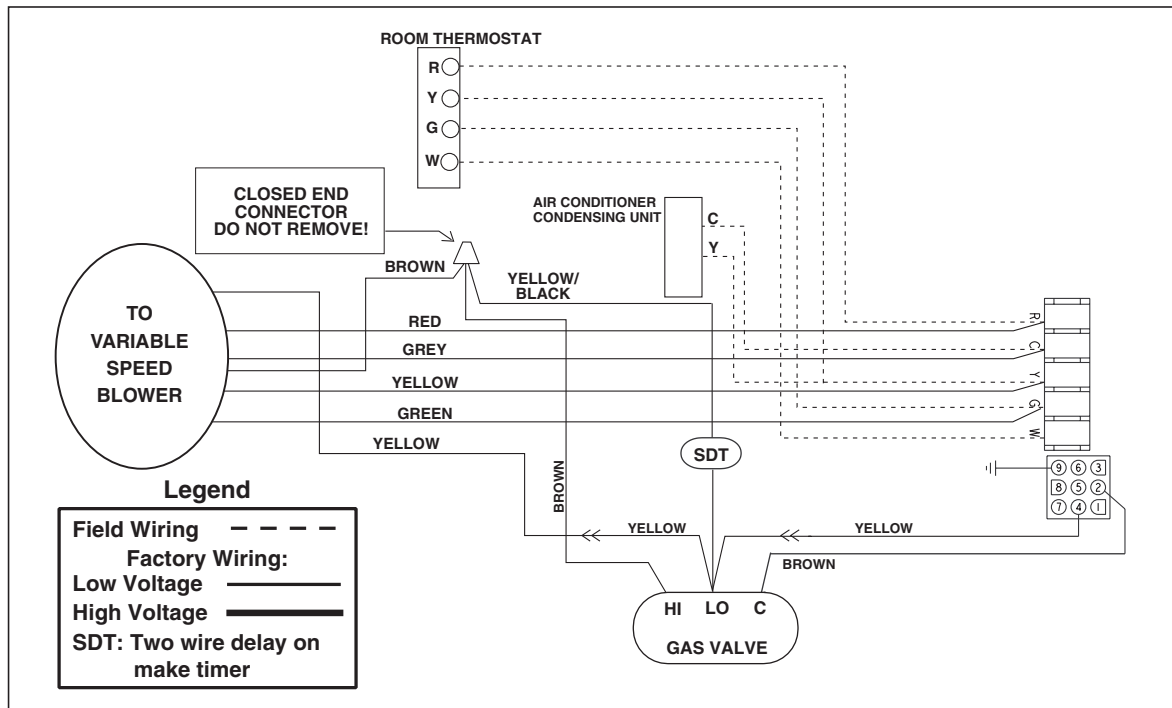

Figure 24. Timed Two Stage Configuration
5. *Timed staging configuration* – For this installation, the primary and secondary gas valves are connected in parallel with a delay on make timer (two wire style) in series with the secondary gas valve (See Figure 24). **CAUTION: DO NOT CONNECT W2** from thermostat to the furnace wiring when using timed staged configuration. When the primary gas valve is energized, the furnace operates in the low fire mode at a lower